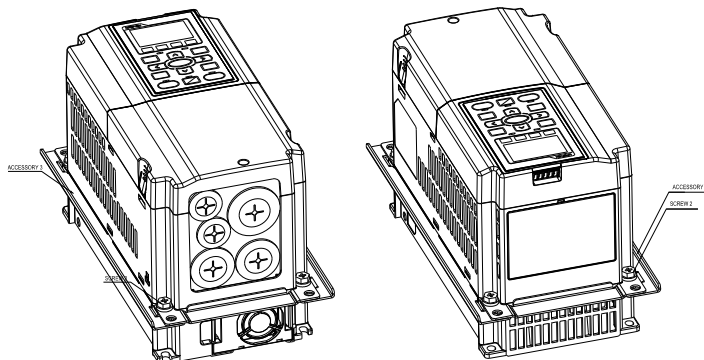

Figure 3
3. Install accessory 2 & 3 by fastening 2 of the screw 2 (M6) (figure 3). Screw torque: 25~30 kg-cm / [21.7~26 lb-in.] / [2.5~2.9 Nm]